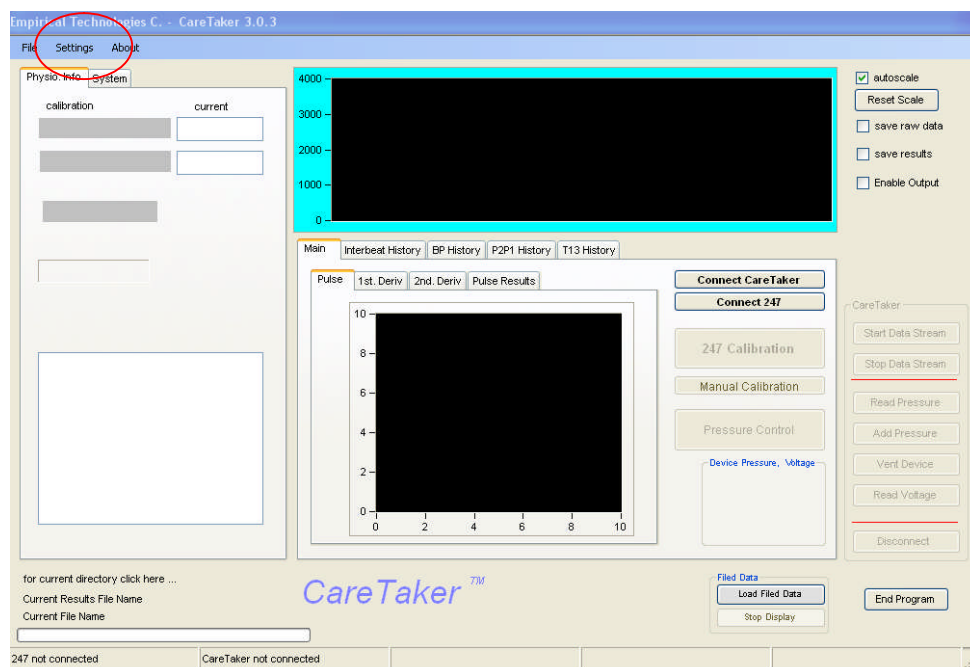

Figure 8: CareTaker GUI
- The program’s Graphical User Interface (GUI) loads. (**Figure 8**).
- Click on the menu item “Settings” in the upper left-hand side (**Figure 8, red circle**).
- If a patient name is entered (see Figure 8, left center of GUI) before the “save raw data” check mark is checked the file title of both described files will incorporate that name.